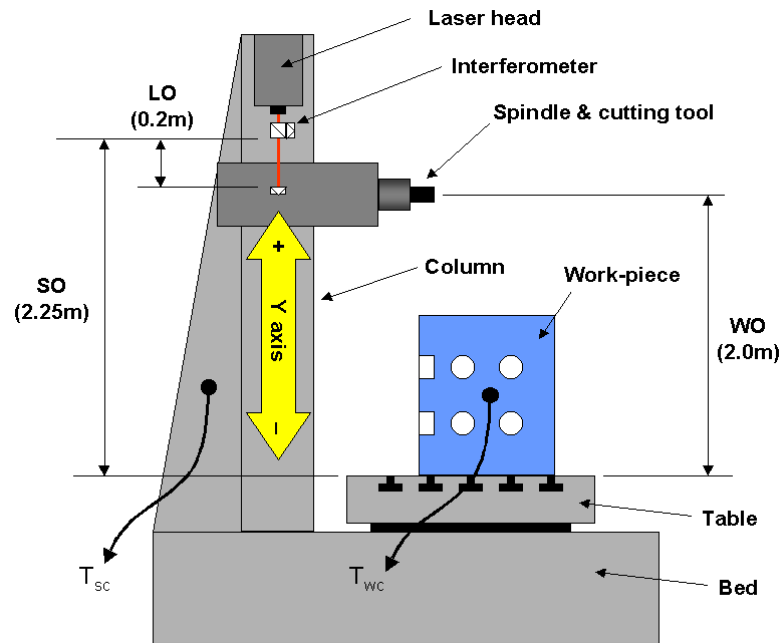

Figure G.3 – Worked example
Figure G.3 below shows a laser interferometer encoder system fitted to the vertical (Y) axis of a horizontal arm milling machine. Positive (forward) movement of the Y axis occurs as the machine spindle moves up the column. The laser and interferometer are positioned at the top of the column and hence are located at the positive end of the axis. The retro-reflector is positioned close to the spindle centre-line. The figure shows the Y axis at the axis reference position. For simplicity of installation, workpiece thermal expansion compensation is also enabled at this position.